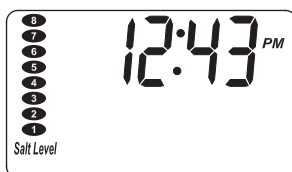

FIG. 32
3. Press the SET SALT LEVEL button until black ovals correspond to the salt level number (See Figure 32). At level 2 or below, the "Check Salt Level" LED indicator will flash.